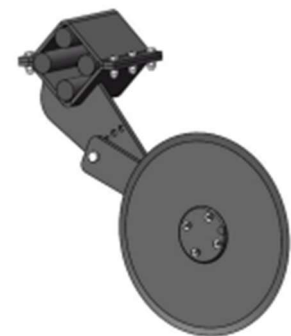

Figure 3.4
3. Batteries Disc (Figure 3.4)